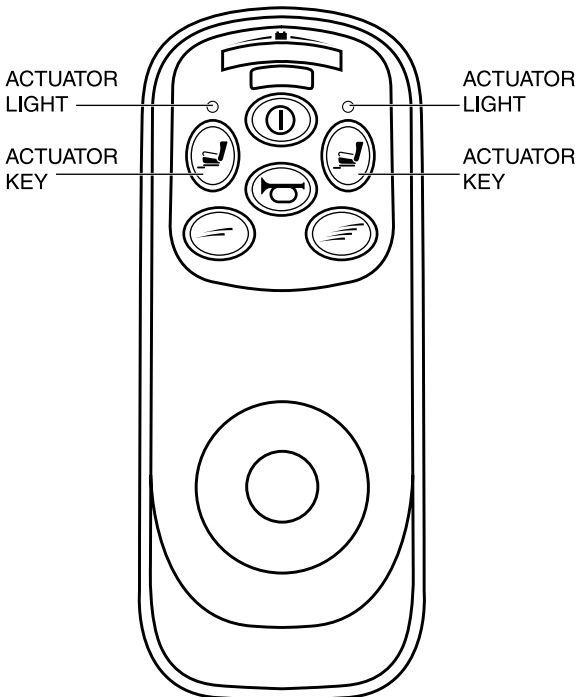

Figure 3. VSI Controller
2. Press an actuator key until the actuator light is on. See figure 3.